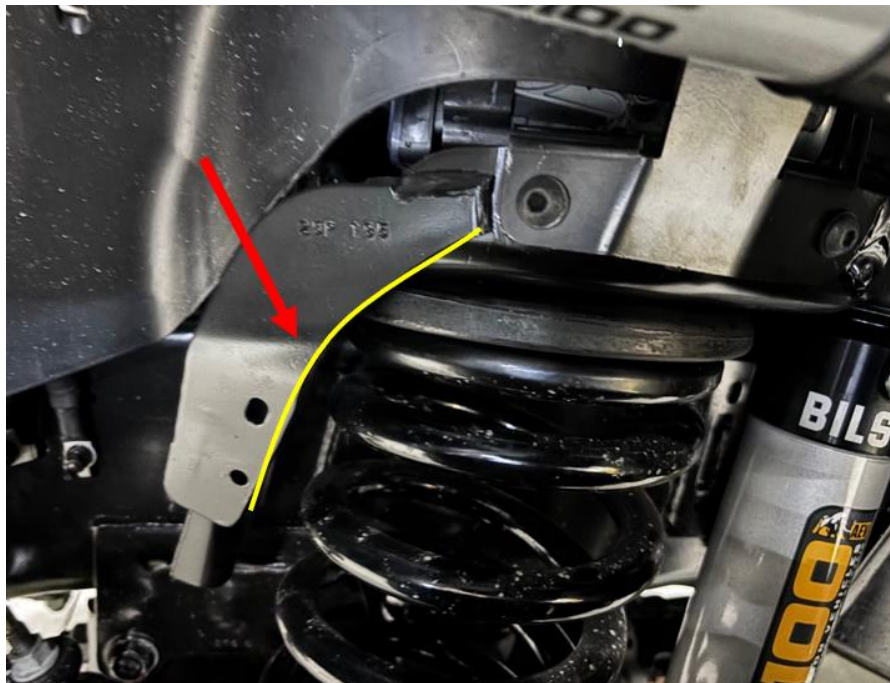

Figure 30
9. Install the factory coil springs. Due to frame bracket variation, some trucks may require trimming of this factory bracket on either or both sides of the vehicle to clear the relocated coil springs (Fig. 30)